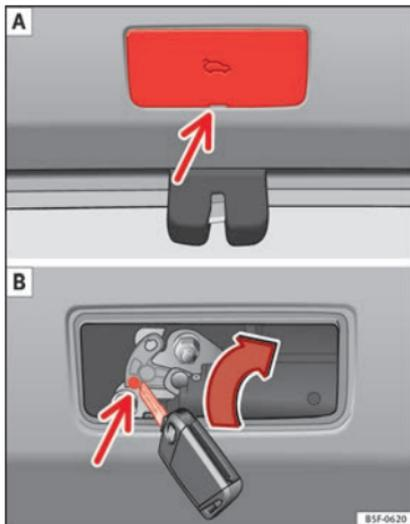

Fig. 197 Luggage compartment: access to manual release.
- Remove the lid through the groove with a screwdriver » **Fig. 197 A**.
- Insert the key into the opening and turn it in the direction of the arrow until the latch » **Fig. 197 B** has been released.